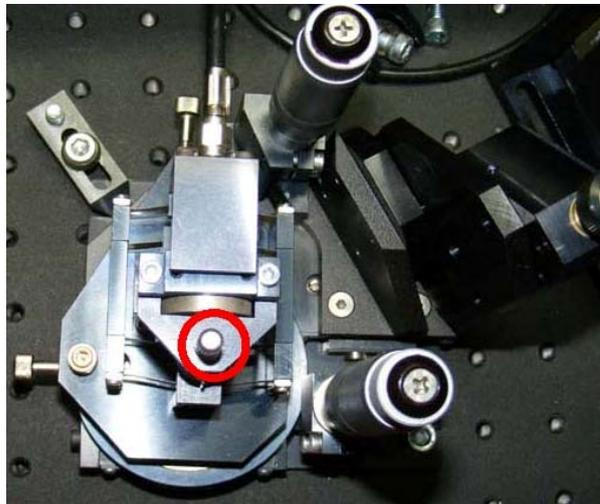
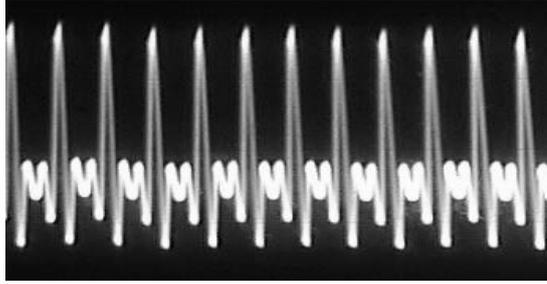

Fig. 14 Prism P2 mount
Fig. 15 Continuous pulse train
70. Move by micrometric screw (or use step motor controller) and slightly push fixating screw of a prism P2 by your finger (marked in *Fig. 14*) (thus you slightly change the depth of insertion of the prism). Look at the result on the oscilloscope. Then by gradually adjusting the M2 find the place where the pulses appear. Femtosecond pulses should appear near the end of the region of stability. Continuous pulse train should be observed on the oscilloscope screen in femtosecond operation (*Fig. 15*).